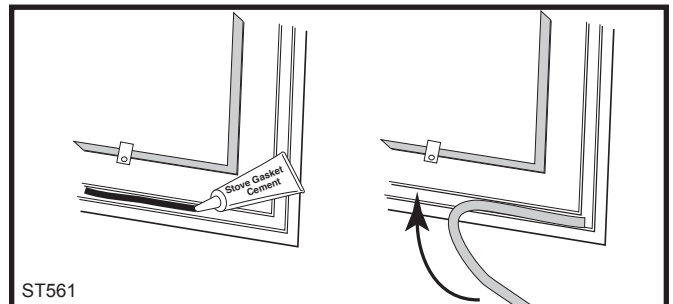

Fig. 38 Lay a bead of gasket cement then press gasket in place.
- Starting at one end, pack a new gasket into the groove. Where the two ends of the gasket meet, ensure a good joint before trimming any excess. Do not overlap or leave ragged edges. (Fig. 38)